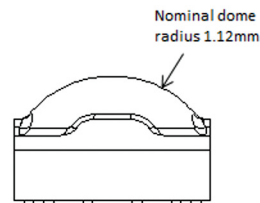

Figure 15: LUXEON C nominal dome radius
The optimal way to pick up LUXEON C is from the dome. Care should be taken not to damage the dome during pick and place. As a reference the dome of LUXEON C has a radius of 1.12mm and the typical A Shore hardness of the dome is 86 (Figure 15). In general, materials such as polyurethane (PU) and polyether ether ketone (PEEK) with A Shore hardness close to the LUXEON C dome hardness will be a good starting choice of material for a pick and place nozzle. Anti-stick coating (optional) can be applied if units (sporadically) stick to the nozzle.